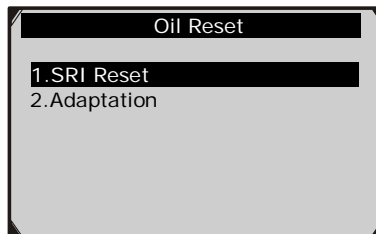
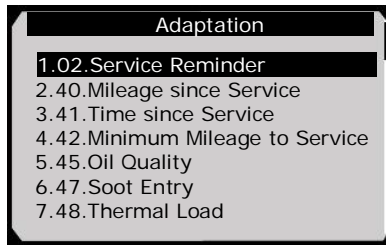

Figure 7.7
Figure 7.15
4) From Oil Reset menu (Figure 7.7), select **SRI Reset** function and press **OK** button. Then the screen shows as Figure 7.8.
- 5) From Oil Reset menu (Figure 7.7), select **Adaptation** function and press **OK** button. Then the screen shows as Figure 7.15.